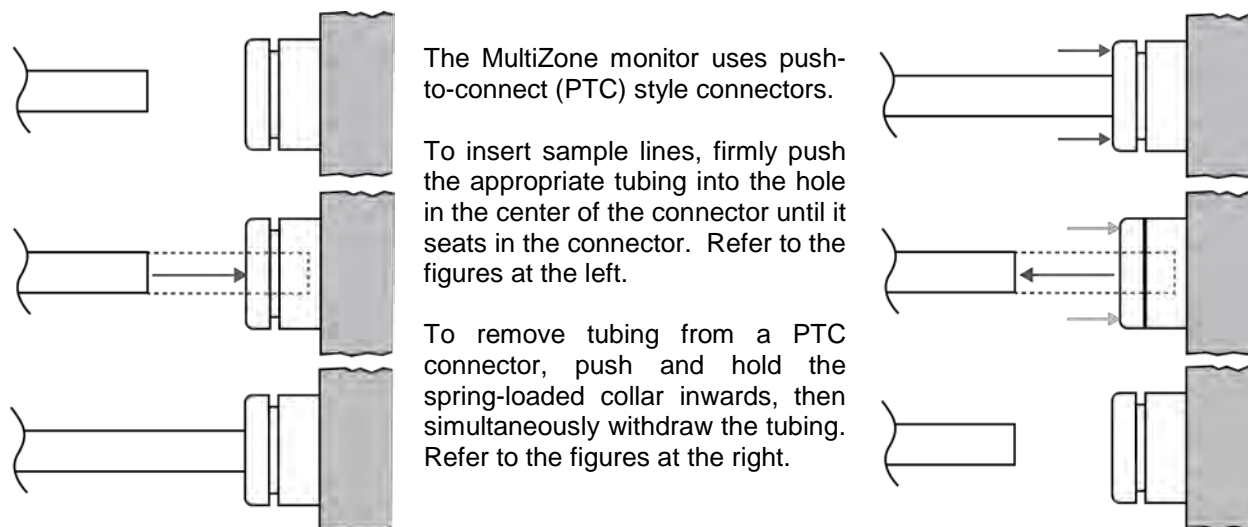

Figure 2-3. Using PTC Connectors: Connecting (Left) and Disconnecting (Right)
1. Locate the RS-485 connector in the MZ (see Figure 2-3 on page 13).